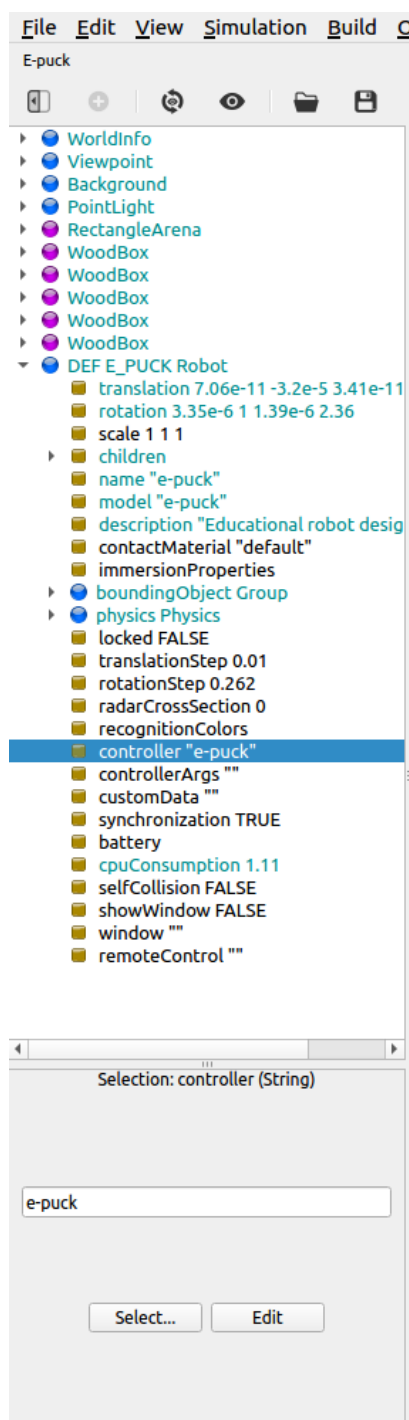

Figure 3- Locating the robot controller in e-puck scene tree.
4. By clicking on the 'DEF E_PUCK Robot' in the Scene Tree, positioning yourself on the *controller* field and clicking Edit, the source code of the controller that the e-puck runs will be displayed in the Text Editor. See Figure 3 for more information.